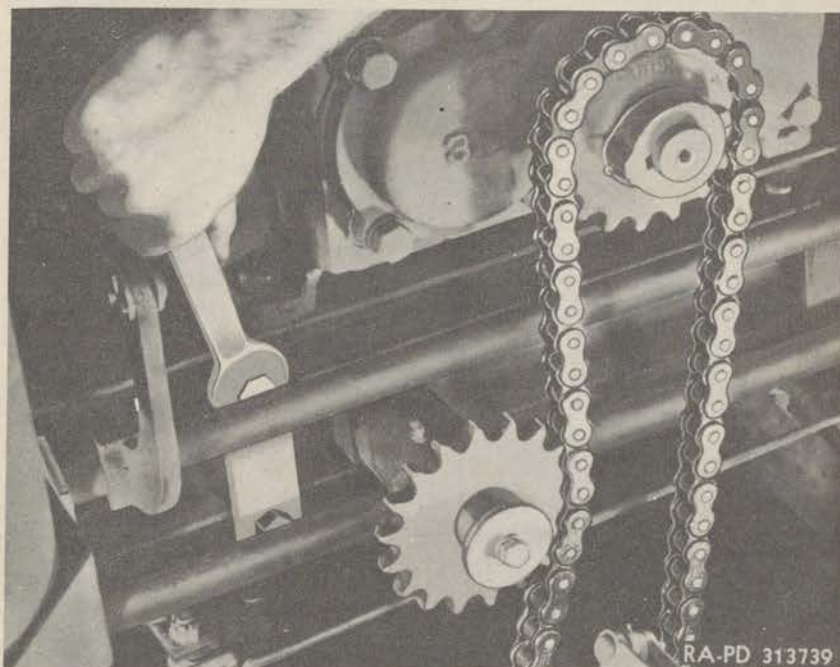

Figure 179—Locking Idler Sprocket Clamp
b. **Installation.** Install the roller chain into position wrapping it around the wrecker transmission sprocket and the transfer case power take-off sprocket with the idler sprocket outside the loop (fig. 179). Then bring the two ends of the chain together and install the connecting link, lock plate and cotter pins.
c. **Roller Chain Adjustment.** The tension on the roller chain is adjusted by means of the sliding idler sprocket. This is done by loosening the four bolts clamping the idler adjusting channel to the base channel and then sliding the idler sprocket forward or backward to obtain the proper chain tension (fig. 179). The idler should be moved up against the chain to give about 1/2-inch deflection on the side opposite the idler. After the adjustment is completed, tighten the clamping bolts and recheck the adjustment. Never attempt to adjust the roller chain while it is running.